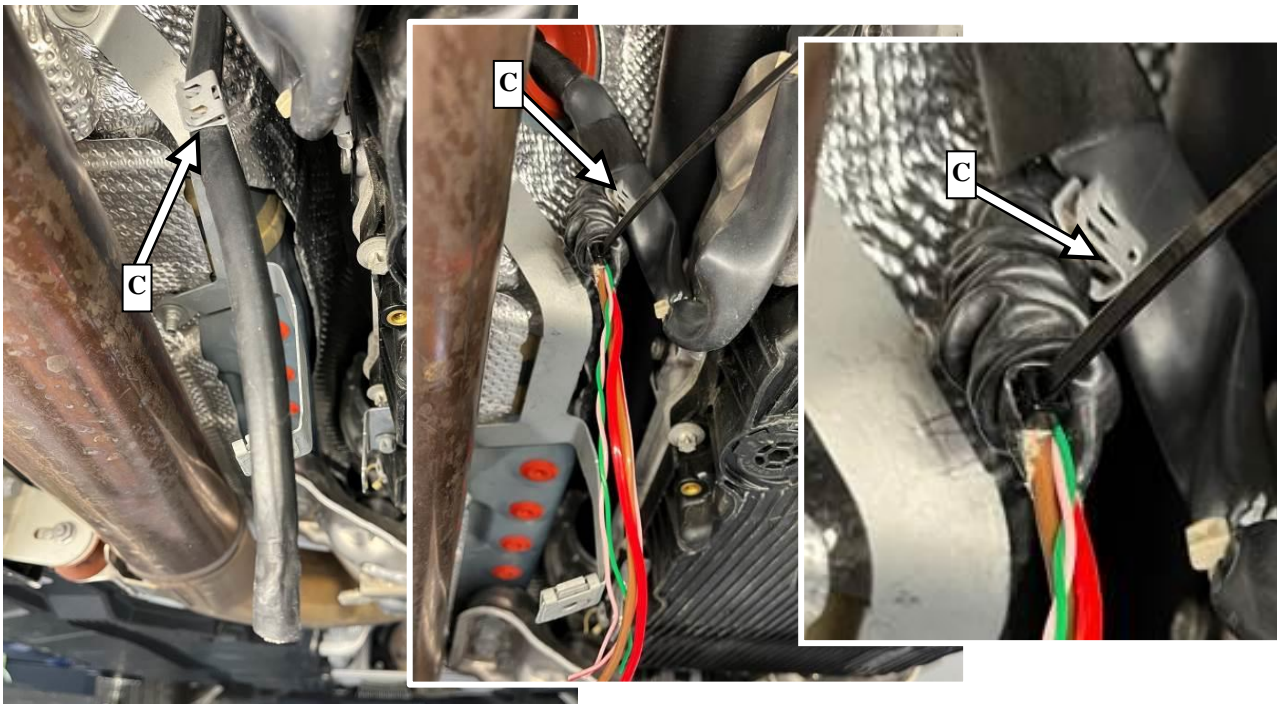

Figure 5
5. Slide the fabric protective hose on the vehicle side wiring harness upward as far as possible toward the retaining clamp (Figure 5, C) and use a cable tie to temporarily secure it against sliding down (cable tie will be removed in Step 12).